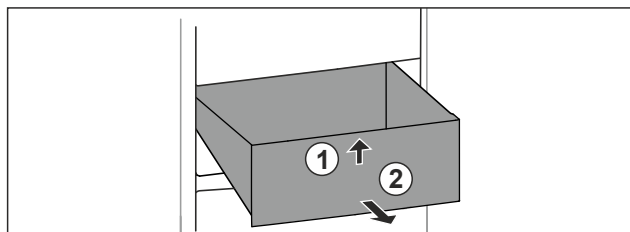

Fig. 77
- Lift up drawer at the front. Fig. 77 (1).
- Remove drawer to the front. Fig. 77 (2).